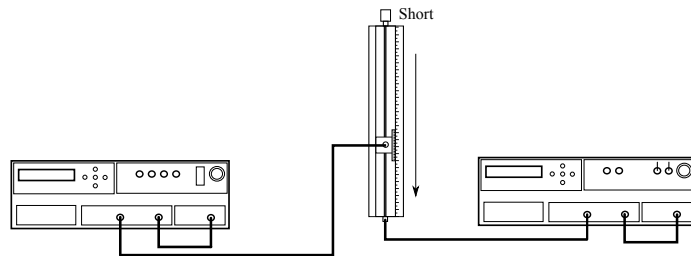

Figure 4: Setup for measuring guided wavelength.
2. Connect the short circuit termination to the other terminal port of the slotted line, see Figure 4.